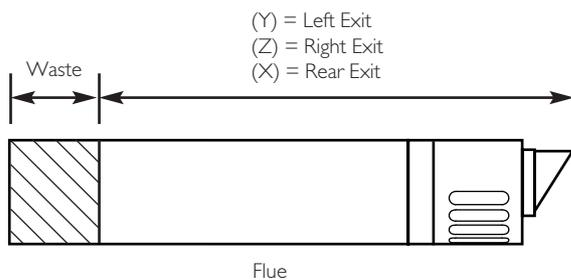

Fig. 28
i.e. (X) = wall thickness + 201mm
3. Take the flue and mark off (X) from the terminal end as indicated in the diagram (Fig. 28).
5. Take the flue and mark off (Y) from the terminal end as indicated (Fig. 28).
6. For right hand exit - measure the distance from the edge of the support bracket to the inner face of the wall and to this dimension add the wall thickness + 343mm. This dimension to be known as (Z).
7. Take the flue and mark off (Z) from the terminal end as indicated (Fig. 28).